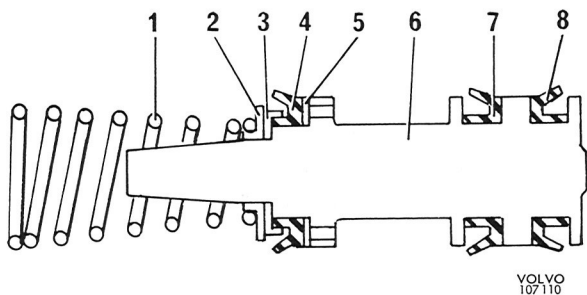

Fig. 5-46. Secondary piston
1. Install the parts on the secondary piston, see Figs. 5-46 and 5-47. Make sure that the piston seals are turned correctly.